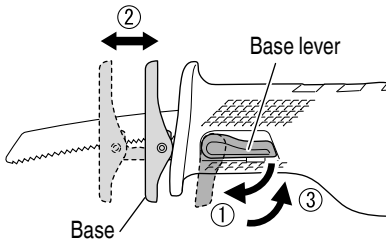

Fig. 14
- (1) Turn off the switch and remove the battery.
- (2) Pivot the base lever clockwise; and slide the base to the desired position. There are five positions that the base can be adjusted to.
- (3) Pivot the base lever counterclockwise to secure the base. (Fig. 14)